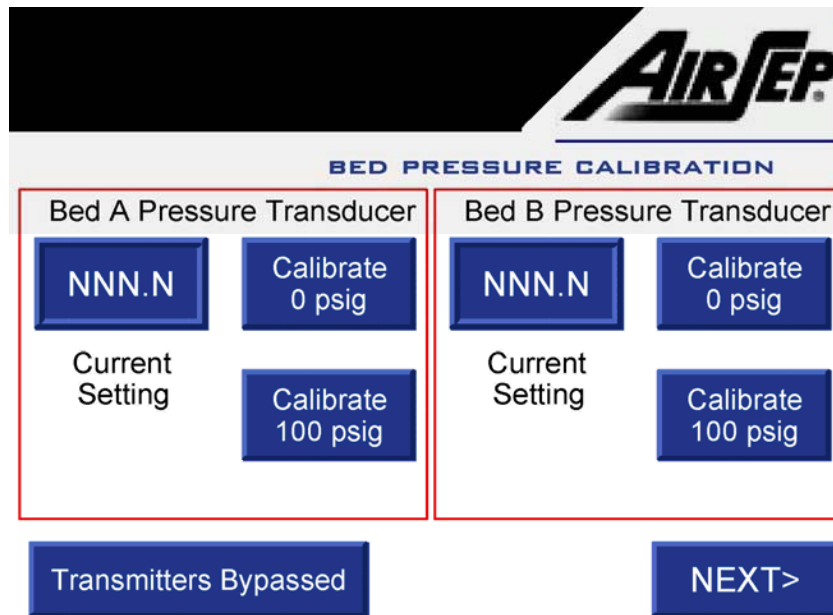

Figure 4.10: Typical Bed Pressure Calibration Screen
1. To calibrate pressure transducer, press the 'BYPASS TRANSMITTERS' icon on the screen to bypass the pressure transducer signal to the PLC. The text of the icon will change to 'TRANSMITTERS BYPASSED' as shown in Figure 4.10.